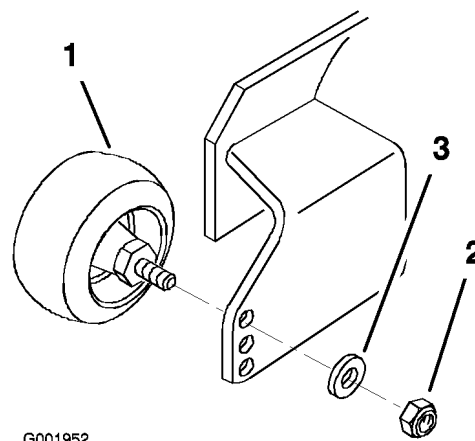
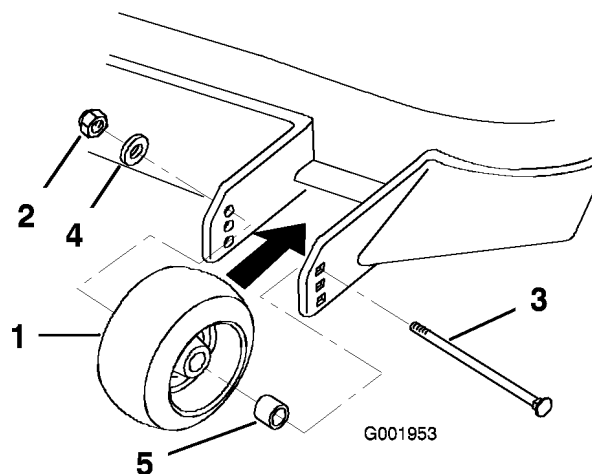
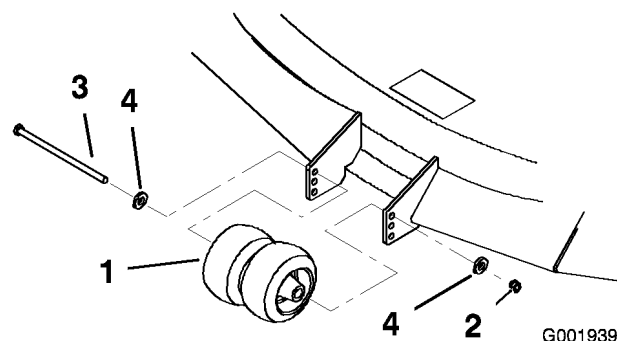

Figure 24
Figure 25
Figure 26
1. After adjusting height-of-cut, check the gage wheels so that there is a minimum of 3/8 inch (10 mm) clearance above the ground (Figure 24, Figure 25, Figure 26).
2. If adjustment is needed, remove the bolt, washers and nut (Figure 24, Figure 25, Figure 26).
3. Select a hole position so the gage wheels are a minimum of 3/8 inch (10 mm) off the ground (Figure 24, Figure 25, Figure 26).
4. Install the bolt, washers and nut (Figure 24, Figure 25, Figure 26).
3. Remove the lower flange bolts (3/8 x 1 inch) and flange nuts securing handle to rear frame (Figure 26).